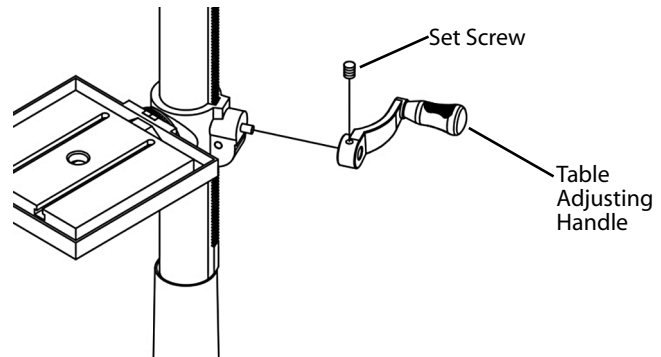

Figure 4 - Attach table adjusting handle to worm gear.
3. Attach table adjusting handle to worm gear. Secure handle with set screw (Figure 4).